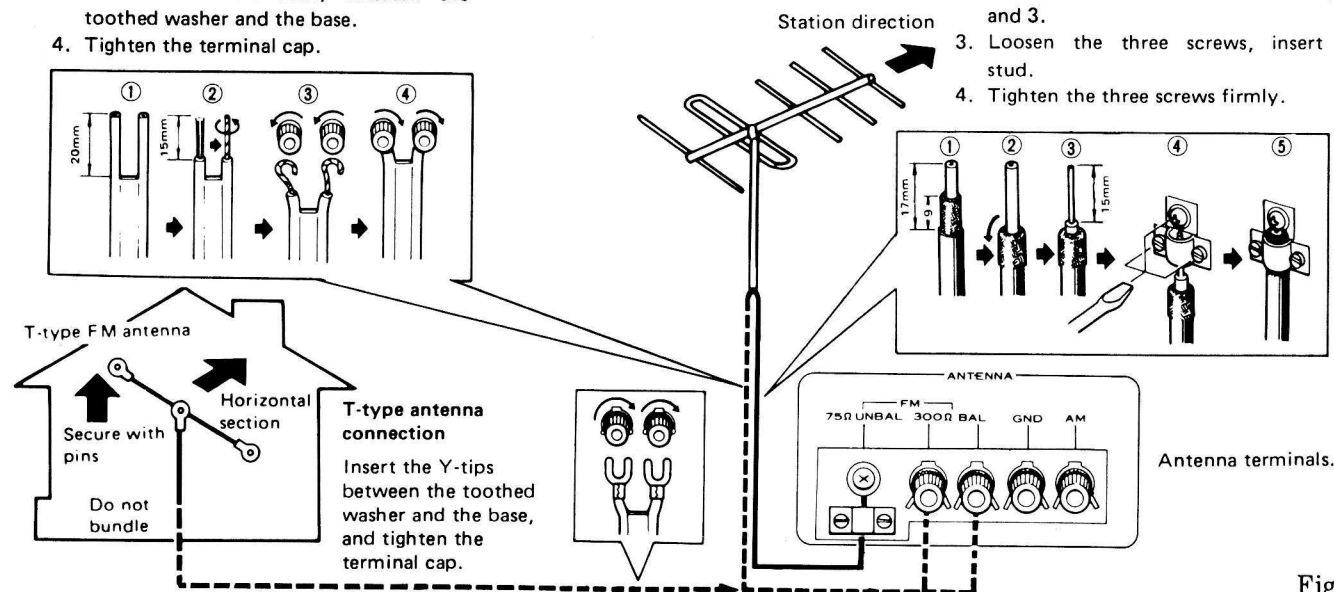

Fig. 5
**75-ohm coaxial cable:** As shown in Fig. 5, connect the cable to the 75Ω UNBAL terminal of the receiver. This cable is used in locations near roads with a great deal of traffic, and near overhead high-tension power lines which generate a lot of noise. It is also used when the antenna and the receiver are far apart.
**300-ohm feeder:** As shown in Fig. 5, connect the feeder to the 300Ω BAL terminals. Use it when there is little external noise and when the antenna and the receiver are not far apart.
When the broadcasting station is located nearby and when the FM signals are strong in wooden frame buildings and the like, you can use the accessory T-type antenna (Fig. 5).
As shown in Fig. 5 connect the end of the T-type antenna to the 300Ω BAL terminals. Spread the two arms of the antenna horizontally and while listening to an FM broadcast, rotate the antenna through 180 degrees and position it for the best reception. Tape the antenna to a wall or ceiling.